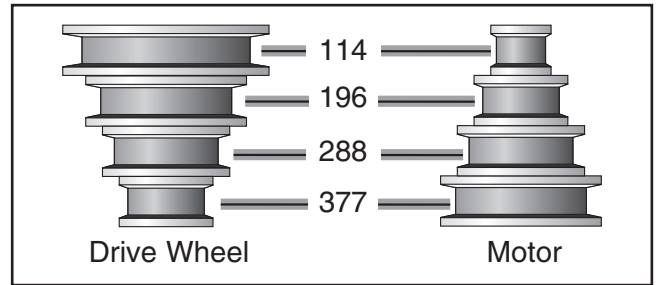

Figure 21. V-belt positions in FPM.
4. Move the V-belt to the desired pulley combination (see **Figure 21**).